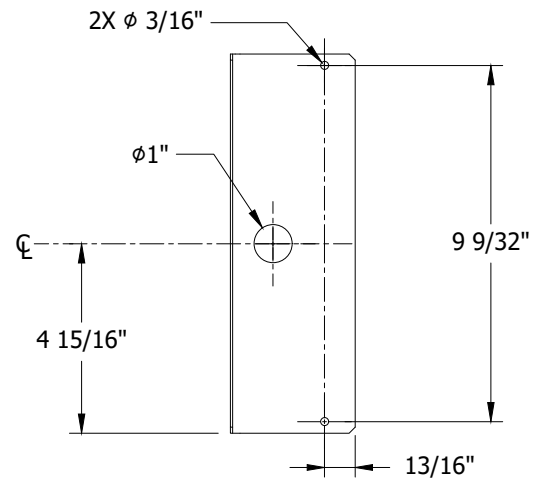

FIGURE 50
- B. FASTEN SHIELD TO DOOR BY SECURING THE INCLUDED THREAD CUTTING SCREWS INTO THE TWO 3/16-INCH HOLES ON THE SHIELD (SHOWN ON FIGURES 50 AND 52).